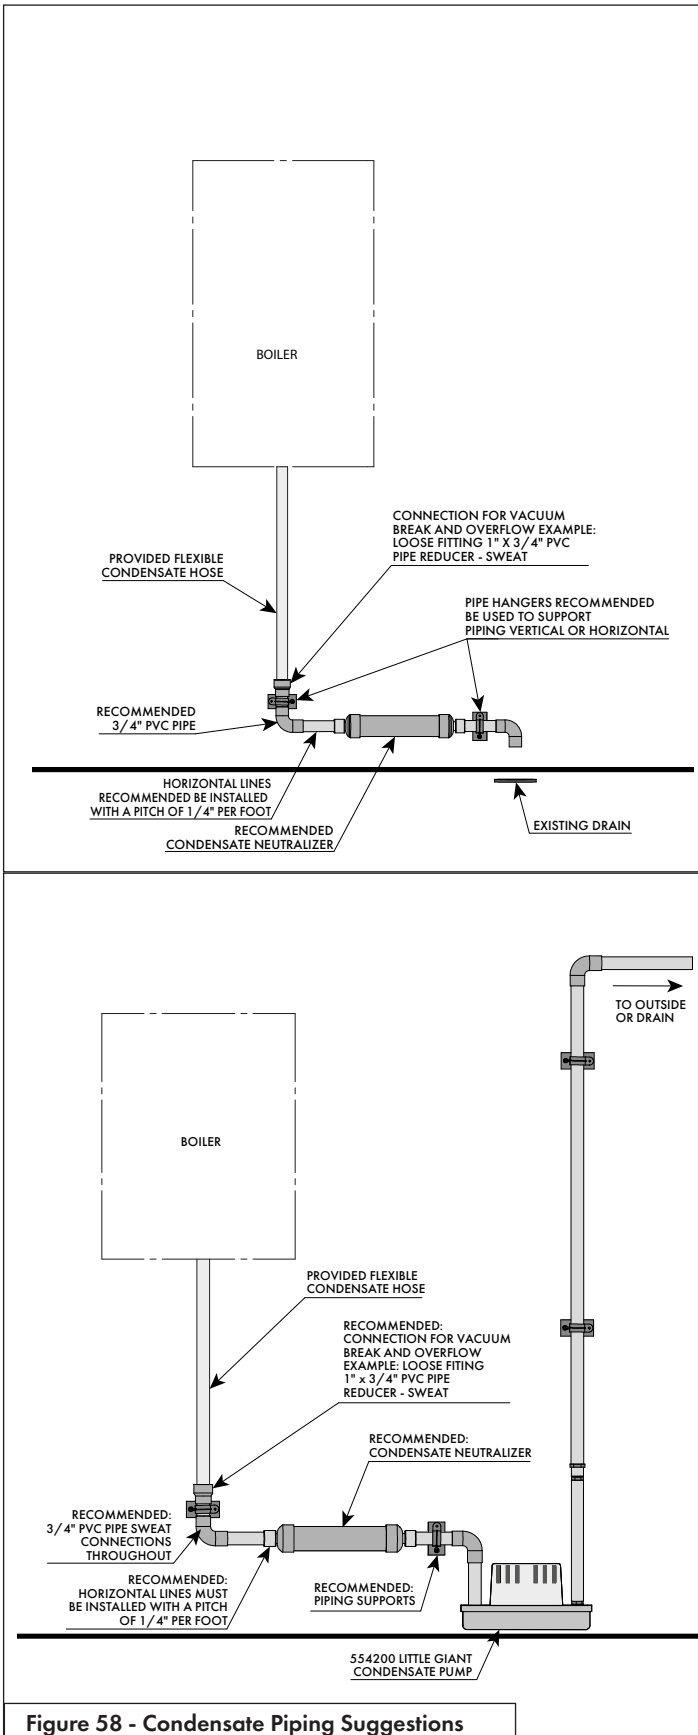

Figure 58 - Condensate Piping Suggestions
8. Local building codes may require an in-line neutralizer to be installed (not included) to treat the condensate. See Figure 58. If required by local authorities, a condensate filter of lime crystals, marble, or phosphate chips will neutralize slightly acidic condensate. Follow all the installation instructions included with the neutralizer. If a neutralizer is installed, periodic replacement of the limestone (or neutralizing agent) will be required. The rate of depletion of the limestone varies with usage of the boiler. During the first year of boiler operation, check the neutralizer every few months for depletion.